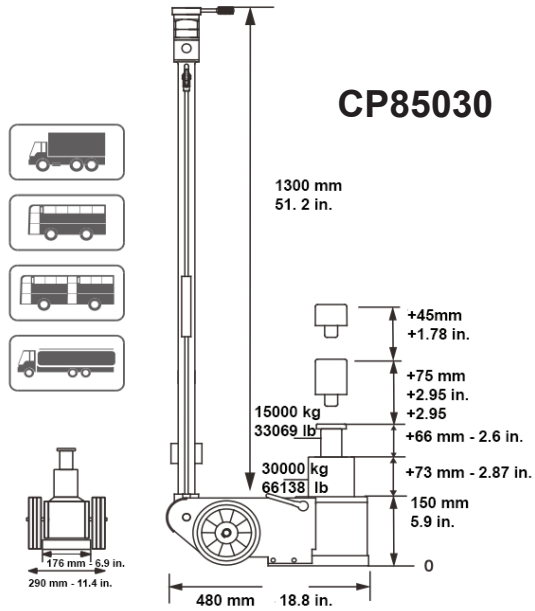

Fig. 08
1. Technical Data (See figures 08, 09, 10 & 11)